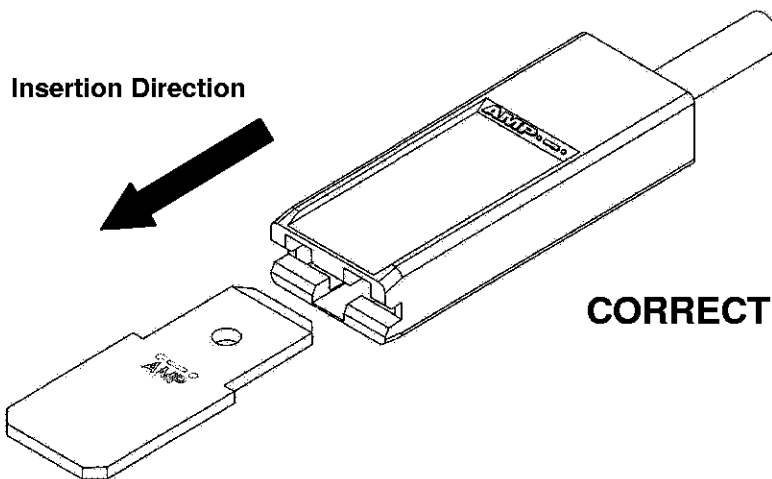
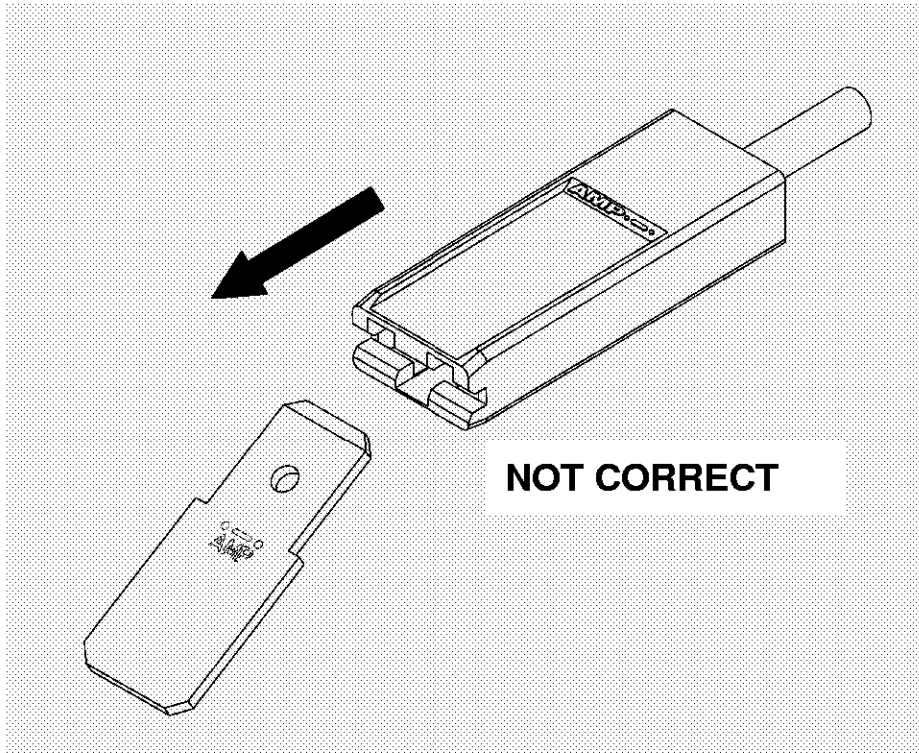

Fig. 1
Fig. 2
2.3. Insert the proper receptacle into the tab straight with same direction as shown in fig. 1. Do not insert receptacle as shown in fig 2.